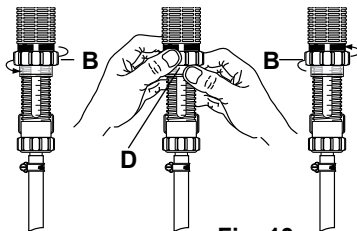

Fig. 13
- Unscrew the blocking nut (**Fig. 13-B**).
- Keep it fixed while screwing or unscrewing the transparent ring (**Fig. 13-D**).
- Tighten the blocking nut (**Fig. 13-B**).